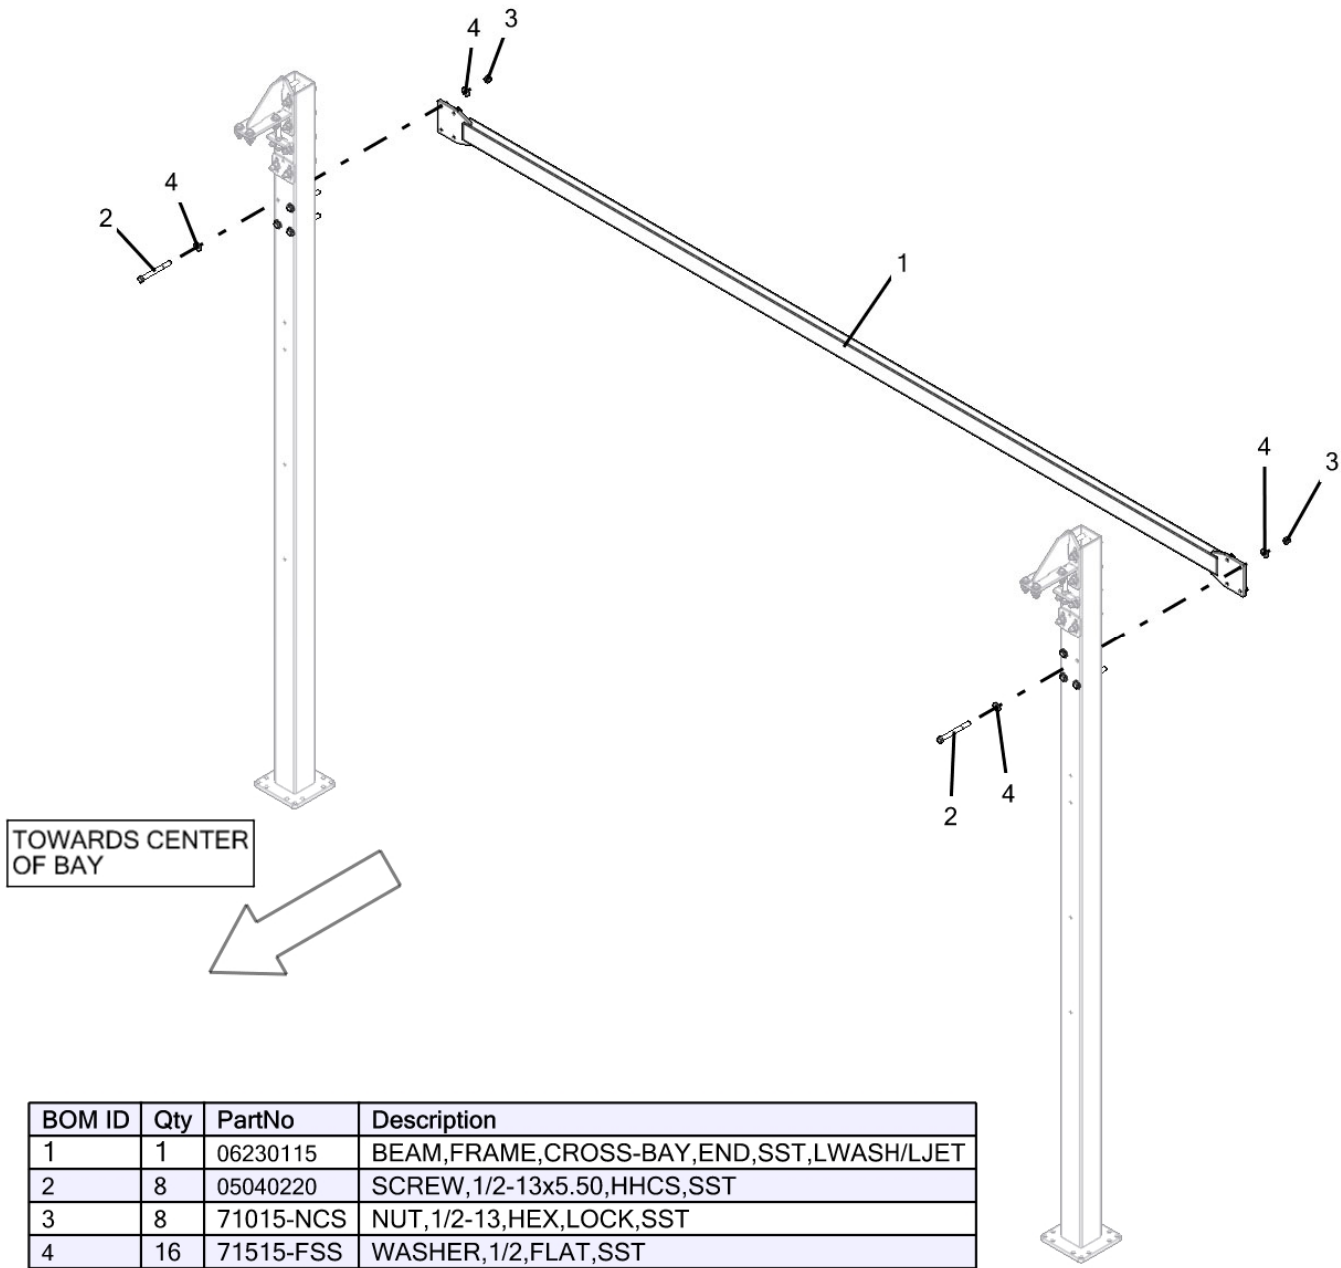
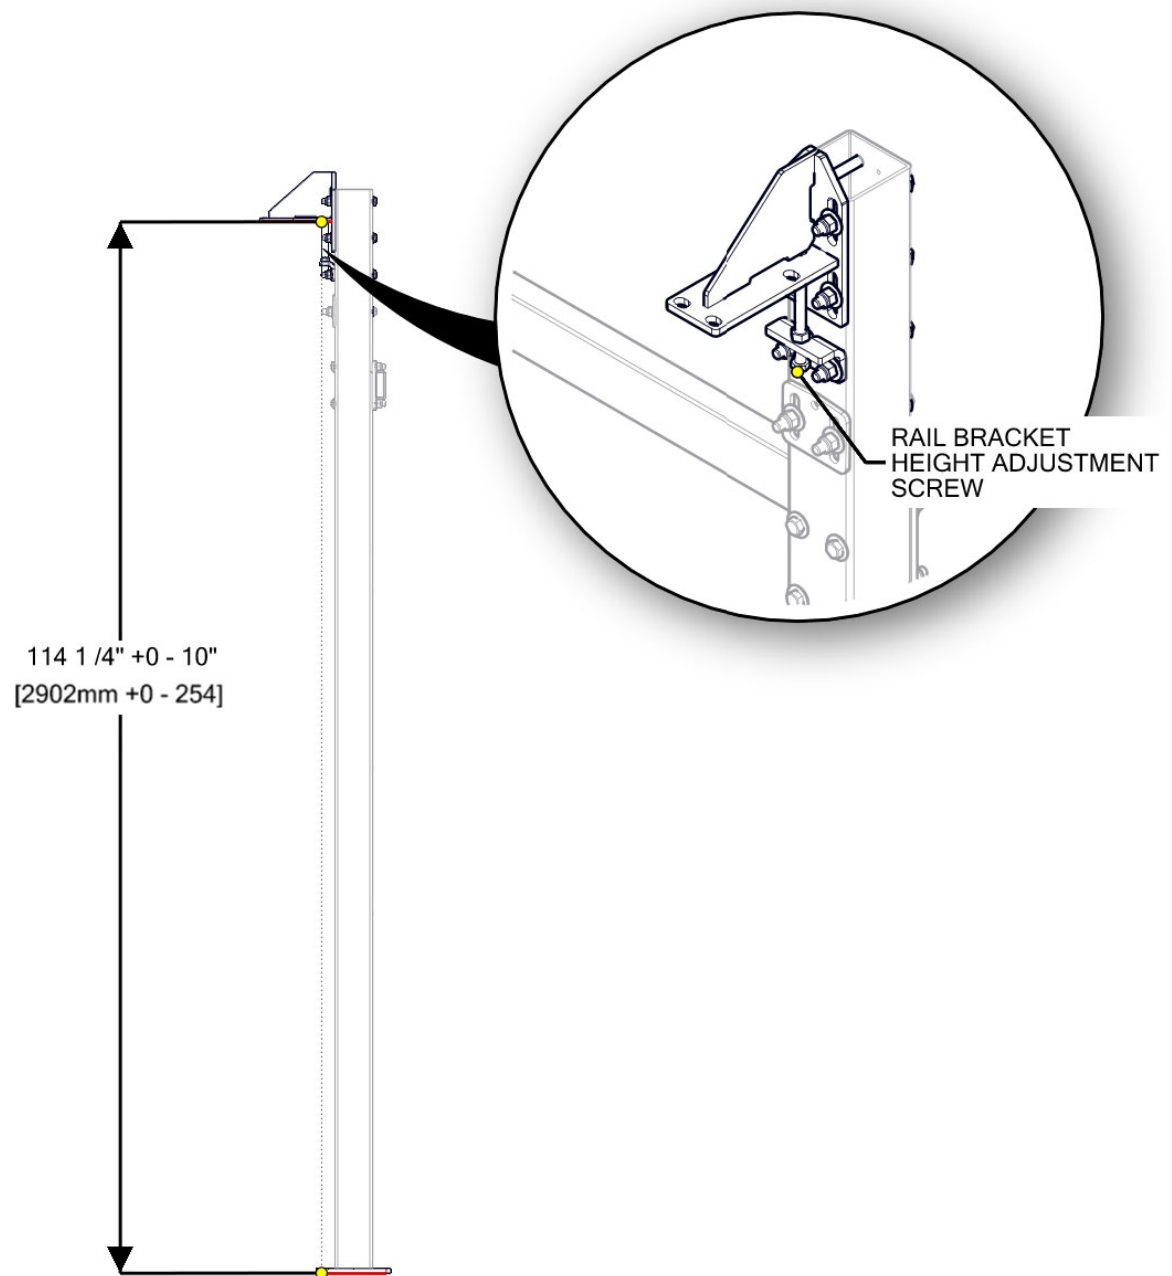

Figure 21 – Cross Beam and Legs
Figure 22 - Leg Arch Height Adjustment
Build (2) leg assemblies as shown in Figure 21. When assembling, position the height of the rail brackets per Figure 22. This height will set the wash clearance height as shown in the table in Figure 22.